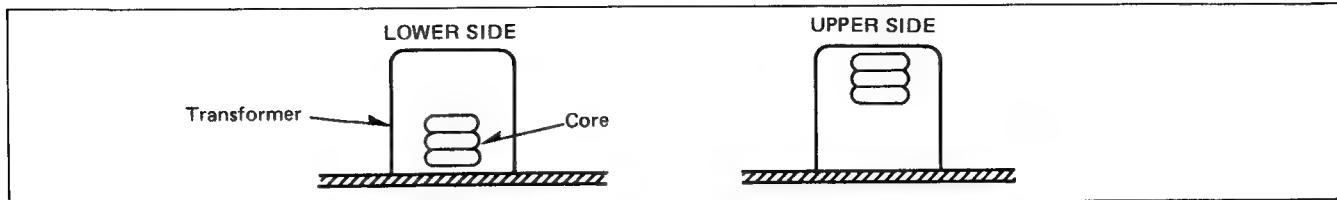

Fig. 19
- 2) Transformer core position. (Application for both Field Adjustment and General Alignment.) Unless otherwise noted, a transformer core which has two tuning peak points should be adjusted at the lower position as shown in Fig. 19.